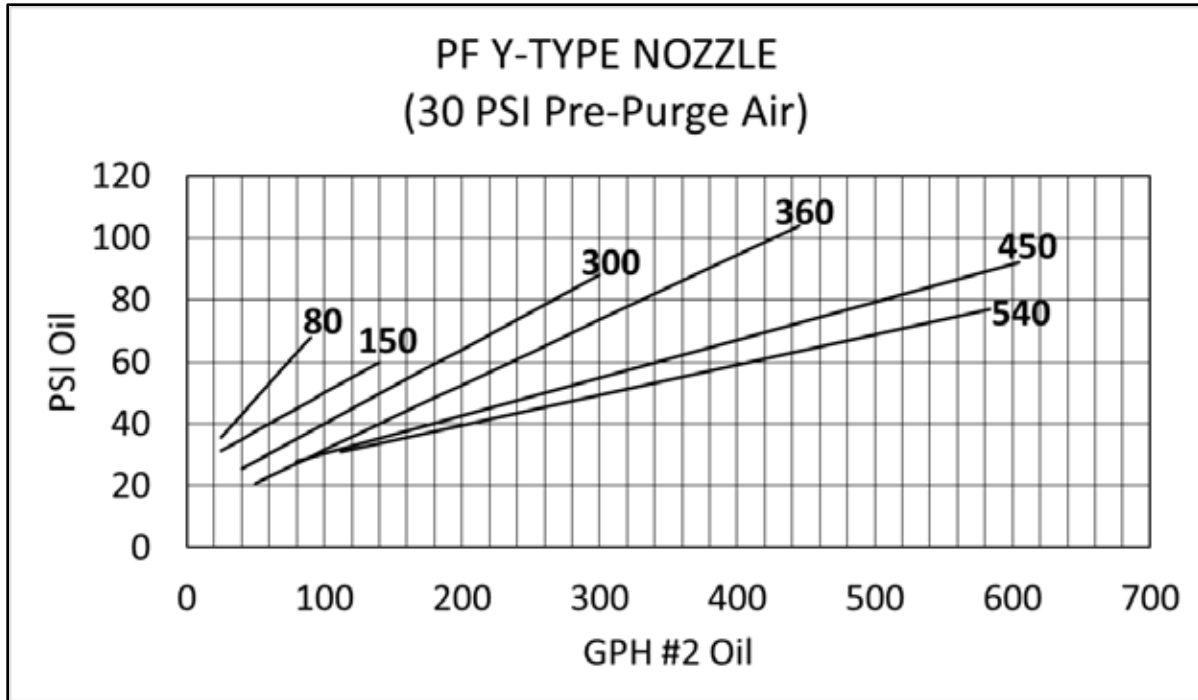

Figure 16: Pressure/Flow Curve for PF Y-Type Nozzles
- 3.4.4 Install oil pressure and vacuum gauges. See Figure 5 for mechanical operation as well as oil and air pressure gauge locations for the system. Check suction line to be sure manual valve is open and that any check valves are opening in the proper direction of oil flow. Check oil filter for tightness. There should be no manual valve in the return line from pump to tank. Refer to Figure 16 for the approximate nozzle oil pressures for a specific firing rate (PF Y-type Nozzle). The corresponding atomizing air pressures will typically be 1 to 5 psi lower than the oil pressure at high fire. **NOTE:** During prepurge make an initial atomizing air adjustment of approximately 20 to 30 psi by setting the bleed valve on the compressor. At low fire the atomizing air pressure will typically be 5 to 10 psi higher than the oil pressure.